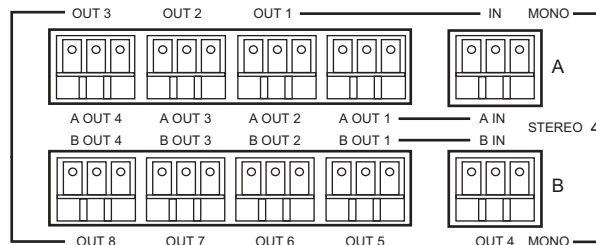

Figure 1.4 Frame Mating Terminals
2. Once the cables are wired, install the connectors according to **Figure 1.4**. The frame's mating terminals are marked for both the 8-output mono and the 4-output stereo amplifiers.